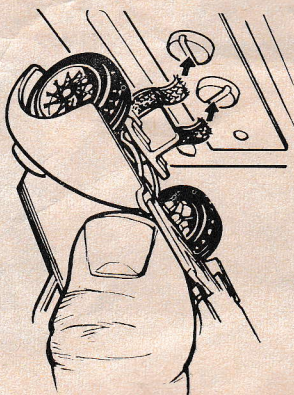

Figure 1
- 2) Test the car by touching the braided wire contact brushes to the power pack terminals (figure 1).